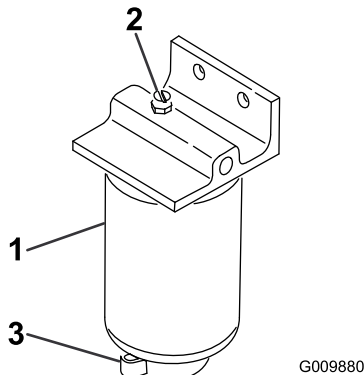

Figure 54
2. Loosen the drain valve on the bottom of the filter canister (Figure 54).
1. Clean the area where the filter canister mounts (Figure 54).